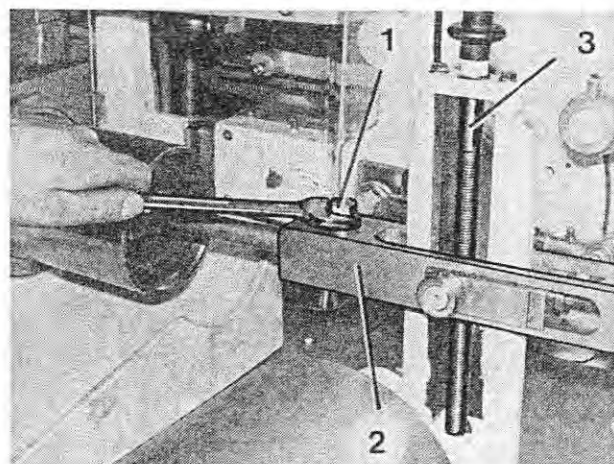

Fig. 174
1. Use the handwheel to turn the machine until the dosing lever (Figure 174/3) is in its rear position.
3. Unscrew the hex nut (Figure 174/1) which retains the piston rod. Push the piston rod out of the slide piece (Figure 174/2) and pull the piston out of the rotary cylinder.